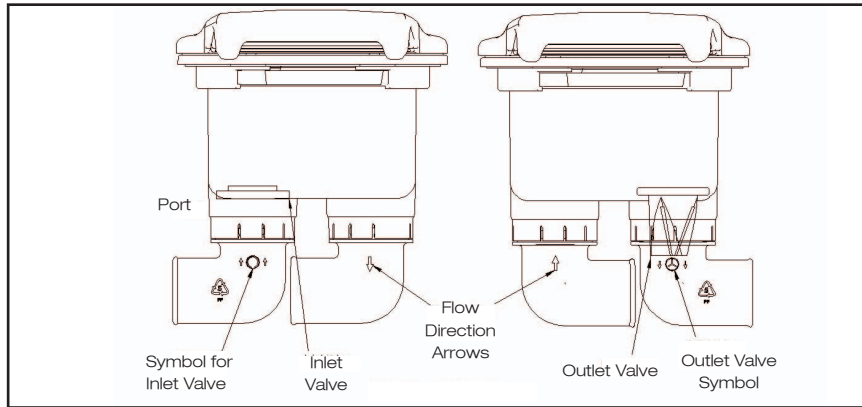

Fig.6 Valves/ Elbow Combination
Both inlet and outlet elbows can be attached to either port. It is very important that the correct valve is installed with the correct port (see fig. 6). See icon on side of each port to confirm the correct valve has been installed with correct port (flat valve on inlet and tricuspid valve on outlet).
4. It is very important that the elbows are re-installed with the correct valves inside the correct ports (see fig 6).